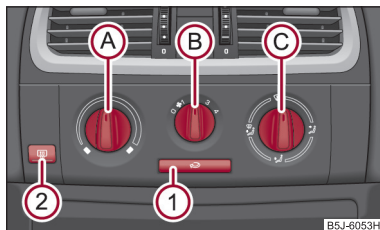

Fig. 90 Heating: Control elements
You can set the air supply to the individual vents with the air distribution control ⇒ page 81, fig. 90. Air outlet vents **3** and **4** can also be opened or closed individually.
- Turn the control dial (A) ⇒ fig. 90 to the right in order to increase the temperature.
- Turn the control dial (A) to the left in order to increase the temperature.